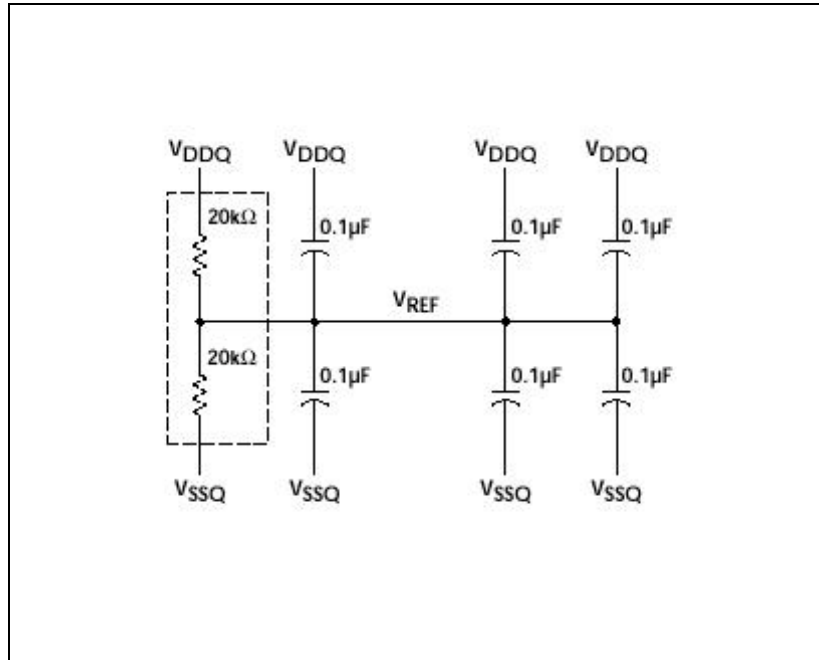

Figure 4 VREF Generation Scheme
- However, VREF (Voltage reference at +1.25V) is still required by the RC32434/5 processor as well as all DDR chips. Because VREF is usually generated by the LP2995, if the LP2995 is removed, an alternate source must be implemented. A simple divider bridge using 20K resistors in parallel with 0.1uF caps between +2.5V and GND can be used (see Figure 4).